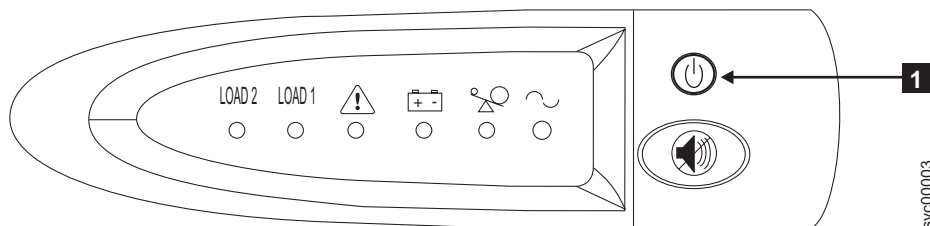

Figure 309. The 2145 UPS-1U front-panel assembly
1. At the front of the 2145 UPS-1U, press and hold the on/off button ( **1** in Figure 309) until the power light is extinguished (approximately five seconds). On some versions of the 2145 UPS-1U, you need a pointed device, such as a screwdriver, to press the on/off button. The 2145 UPS-1U enters standby mode.